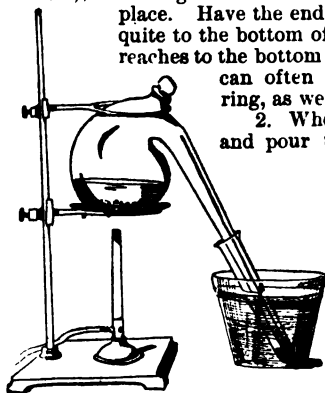

Fig. 33.
1. Arrange a tubulated retort (of 250cc) on a r.s. (using plate and asbestos), as in Fig. 33. Have a ring above the retort to hold it in place. Have the end of the retort tube extend nearly or quite to the bottom of a large, clean and empty t.t. which reaches to the bottom of a tumbler filled with water. This